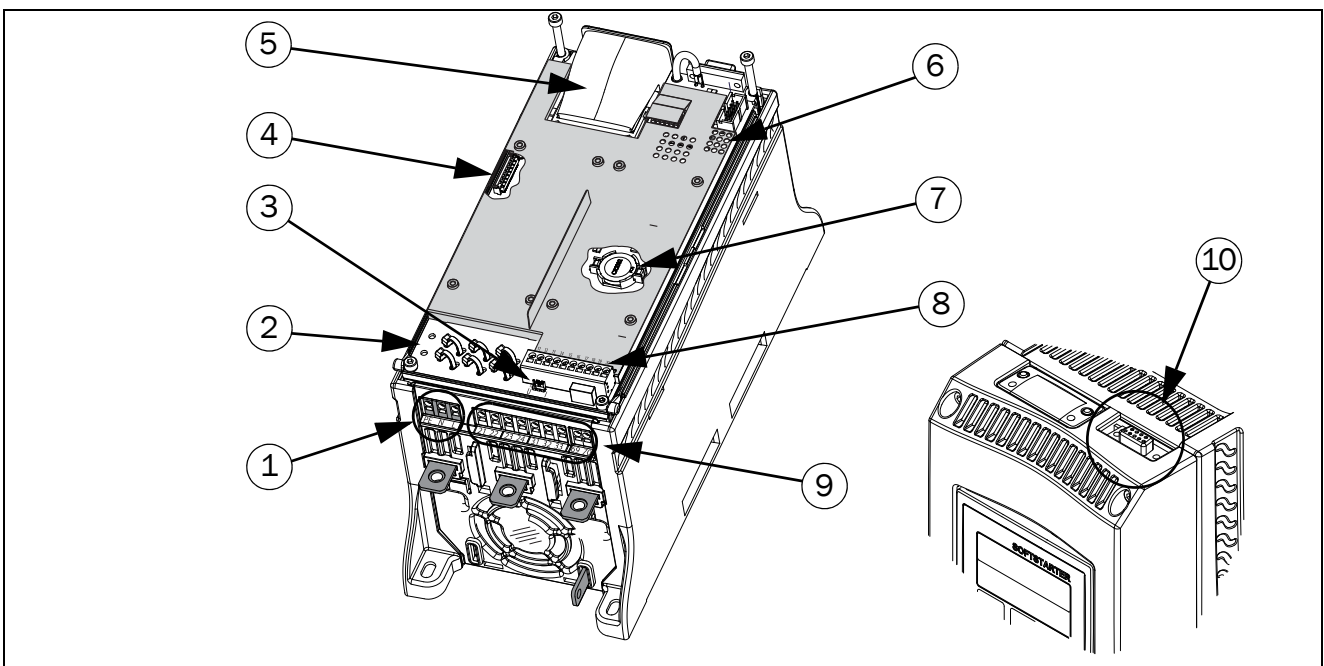

Fig. 9 Board layout for Emotron TSA Size 1-2.
**NOTE: For the Emotron TSA softstarter it is not mandatory to use shielded cables to fulfil the EMC regulations (section 1.5, page 6). The only exception is when connecting option board cables, for which there is an earthing plate that serves as an attachment for the shielded control cables (see Fig. 9 on page 14).**